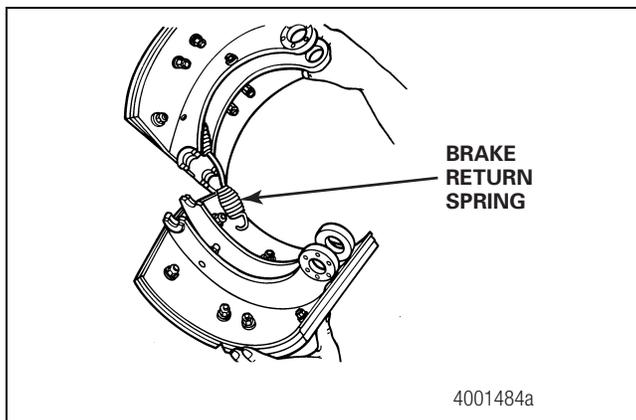

Figure 5.22
2. Connect the return spring to the brake shoes. Install the brake shoes onto the spider in the same position from which the shoes were removed. Figure 5.22.